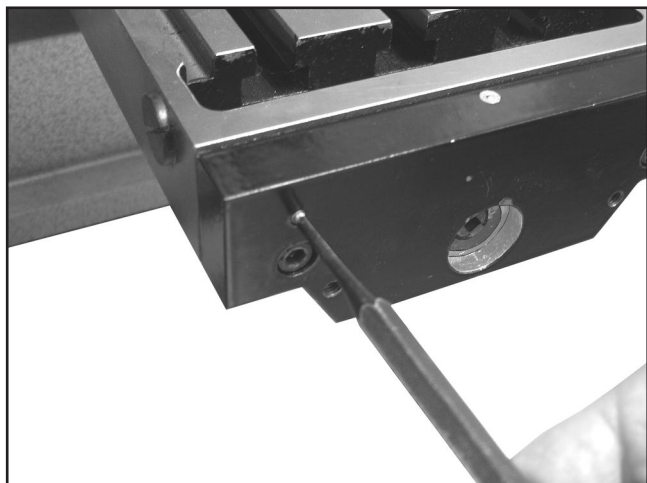

Figure 13. Pin reinstallation.
18. Reinstall the end plate, and drive the tapered pins in (**Figure 13**), so they are slightly recessed in the end plate face.